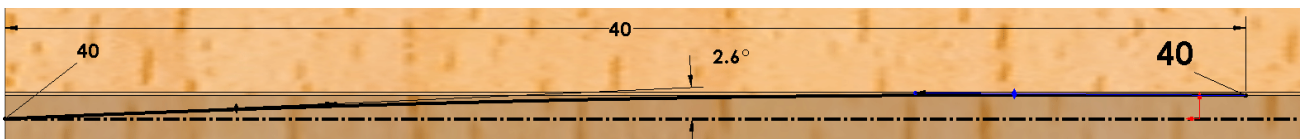

Fig. 26
Step 13. Dimension Spline Point 2 **Tangent Weighting1 40**, Fig. 26. To dimension Tangent Weighting, click the **Circular Spline handle** ●, then move the cursor out away from spline and click. Key-in 40 and press ENTER.